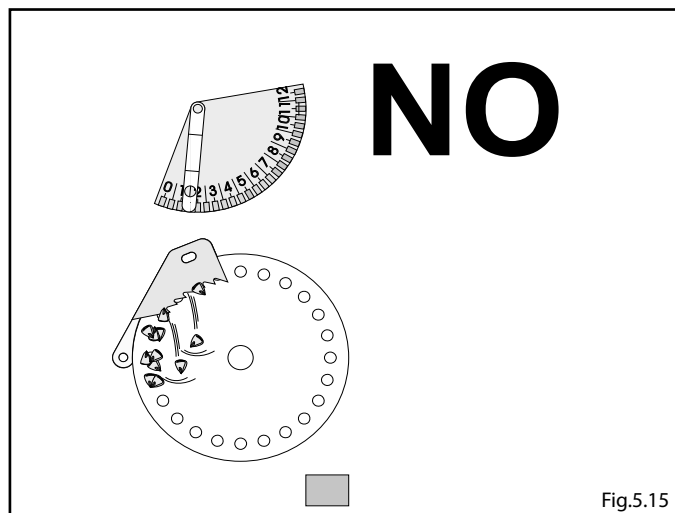

Fig.5.15
**A)** The holes in the seeding disc downstream the selector have no seeds or very few (Fig.5.15).